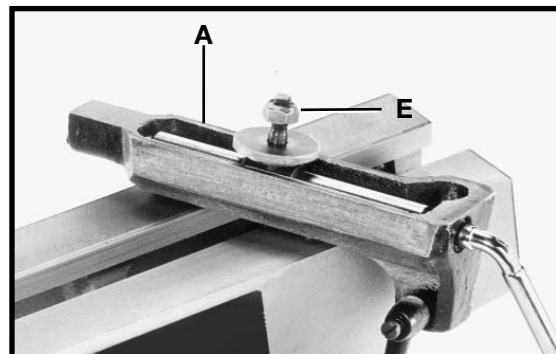

Fig. 23
3. The clamping device on the tool rest base can be adjusted by turning the tool rest support (A) Fig. 23 over and adjusting nut (E) clockwise to tighten or counterclockwise to loosen the clamping action.